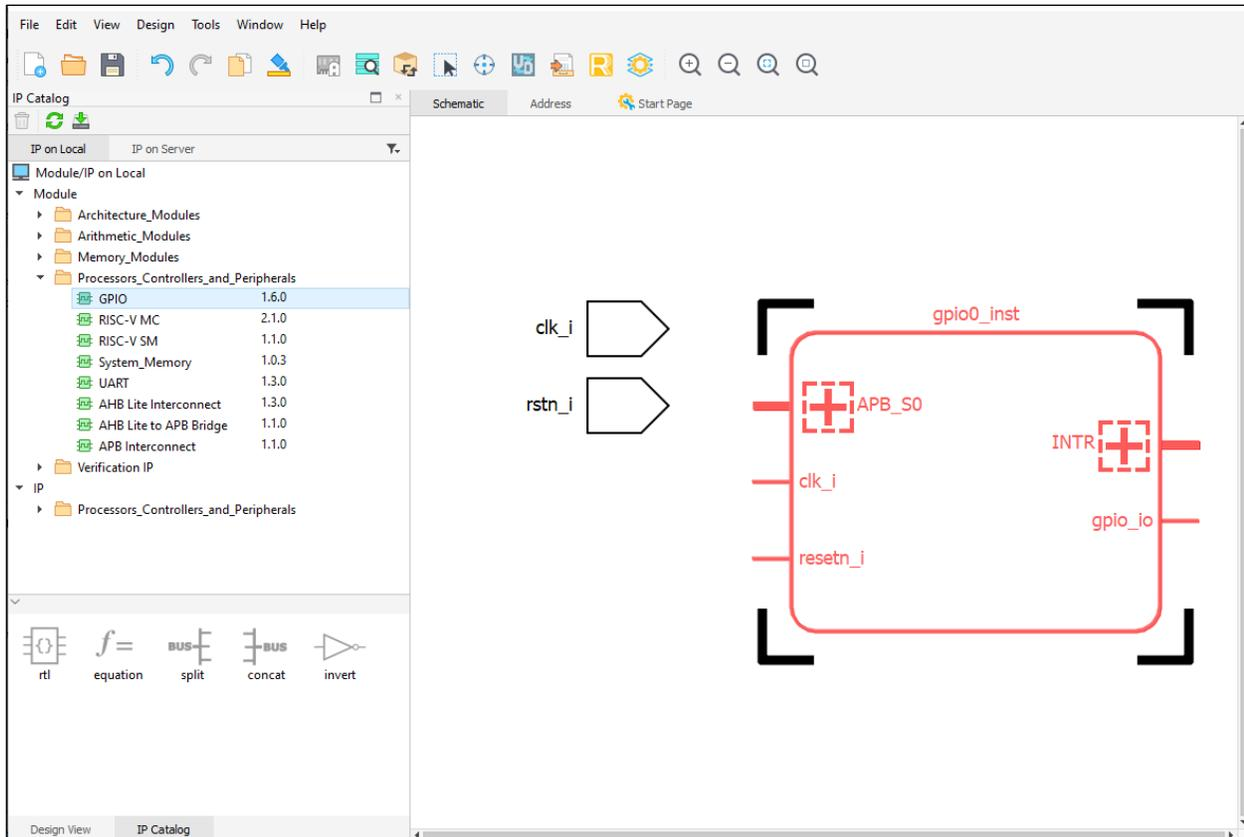

Figure 2.34. Select Object
- Click on the object in the Schematic view. The selected object turns to red (Figure 2.34).